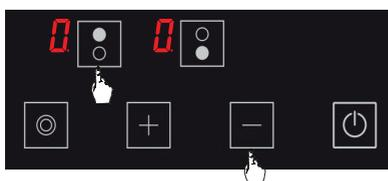

Figure 21
2. Press upper hob selection key (**⊙**) and minus key (**-**) simultaneously. (see Fig. 21) You shall hear a short warning signal at this time. Then, remove your fingers from the stove control panel.